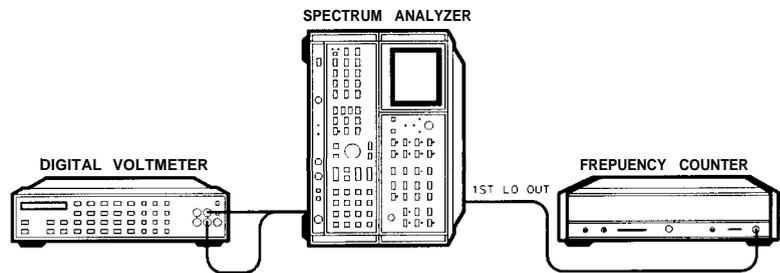

Figure 3-70. Frequency Control Adjustments Setup
1. Place instrument **on** right side with IF-Display facing right as shown in Figure 3-70 and remove bottom cover.